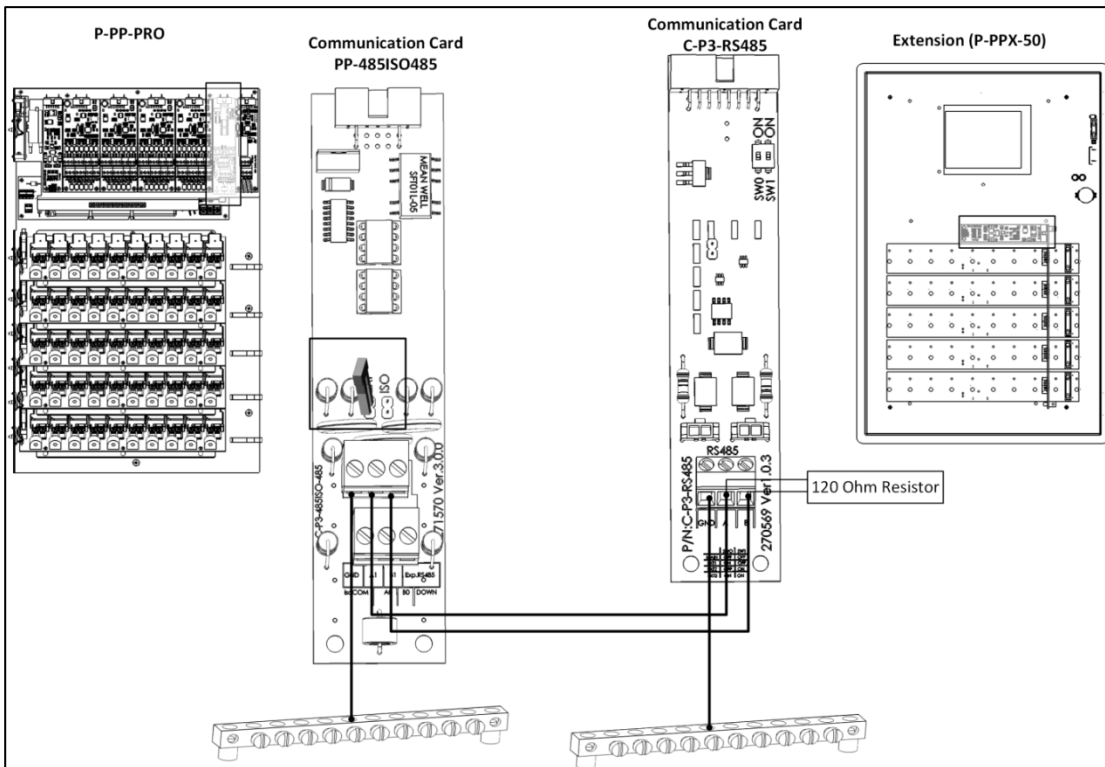

Figure 47: Expansion Box – Controller Termination
- If an Expansion unit is installed at the end of a chain, install a 120 Ohm termination resistor (supplied by Munters) (Figure 47).